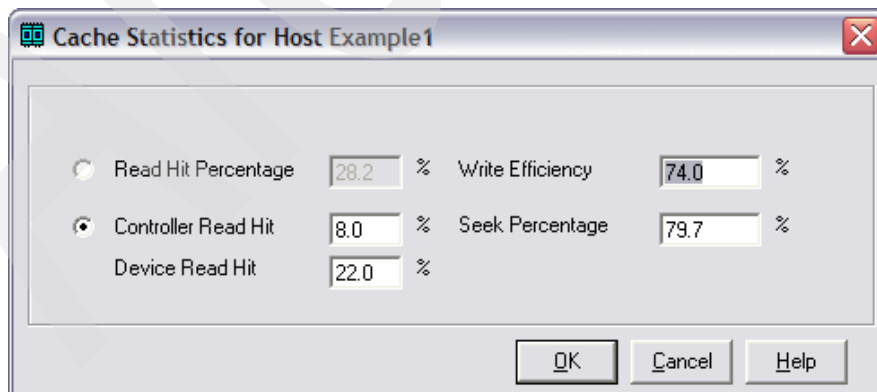

Figure 4-27 Cache statistics of workload on internal disk
- b. You can observe the current percentage of cache read hits and write efficiency as shown in Figure 4-27. Click **OK** to return to the iSeries Workload tab.